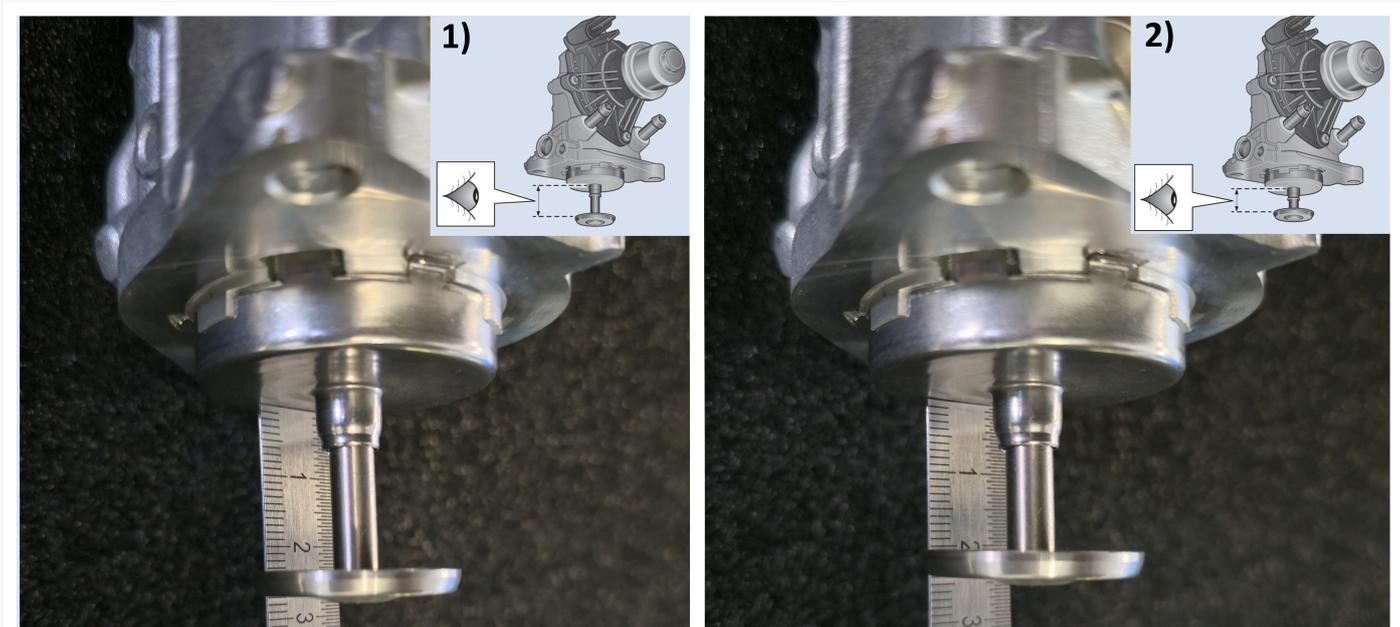

Fig. 6) 1) Delivery position 2) Installation position
5. Identifying feature of the installation position: The valve disk has slightly retracted into the housing (see Fig. 6)